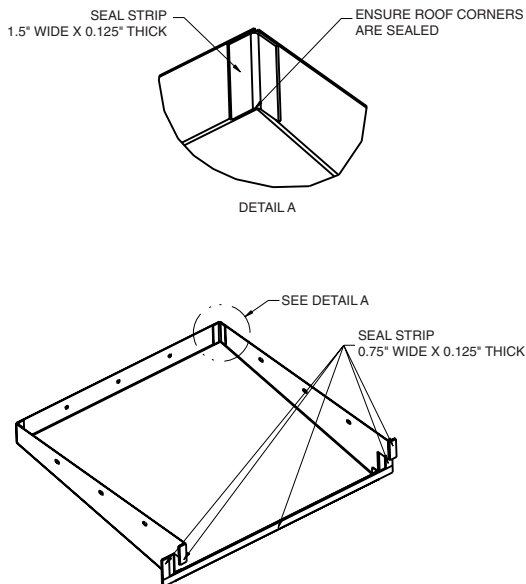

Fig. 40 — Apply Seal Strip
4. Apply seal strip (Fig. 40) to roof as shown on the coil connection housing roof gasketing detail in Fig. 41 ensuring that all four roof corners are sealed.